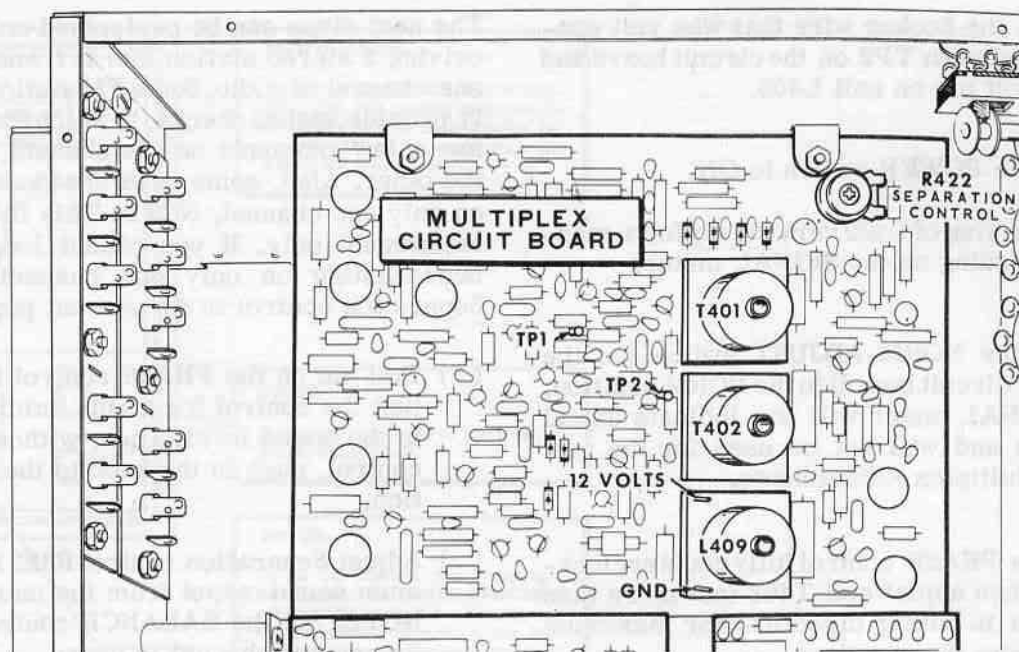

Figure 1-10
- () Separation control: Full clockwise; then counterclockwise 1/4 turn. See Figure 1-10.
Refer to Figure 1-10 for the following steps.